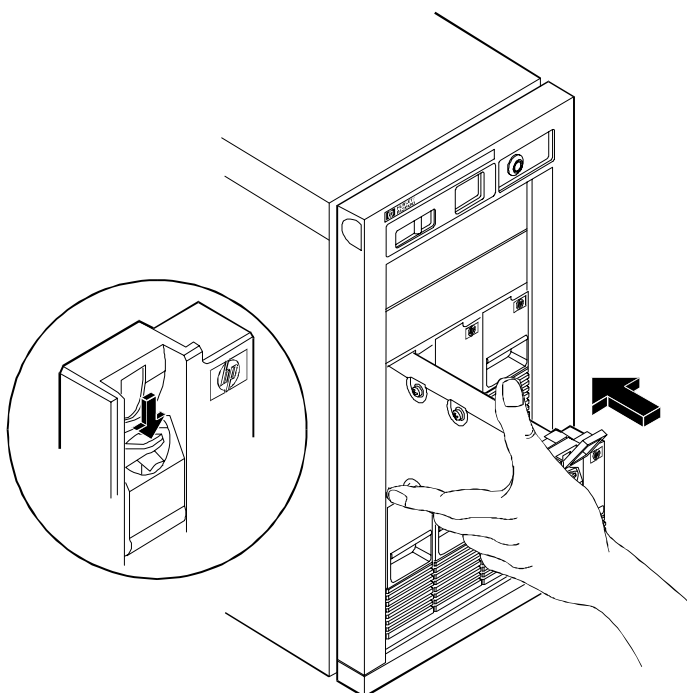

Figure 3-2. Installing the Hot-Swap Disk Module
3. Holding the hot-swap disk module as shown in Figure 3-2, slide the hot-swap disk module slowly into the shelf until it stops.